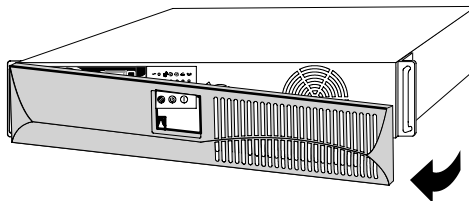

Figure 41. Removing the UPS Front Cover
1. Remove the UPS front cover by pulling on both ends (see Figure 41).